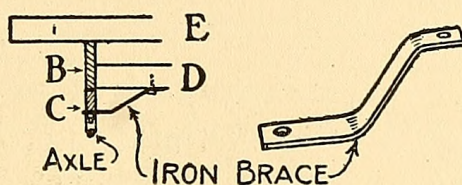
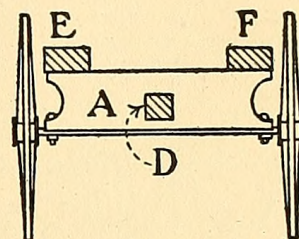

FIG. 461. — Brace for the Front Axle.
FIG. 459. — The Rear Axle.
**The Wooden Axles** should be constructed first (Figs. 459 and 460). The sizes of these will depend upon the
Connect the wooden axles by means of a piece of 2-by-2 (*D*, Figs. 459 to 462), and brace the king-bolt of the front axle to this strip with an iron strap, to prevent it from bending (Fig. 461); the brace should be about  $\frac{1}{8}$  inch thick and 1 inch wide, and should be bent and drilled as shown in Fig. 461.